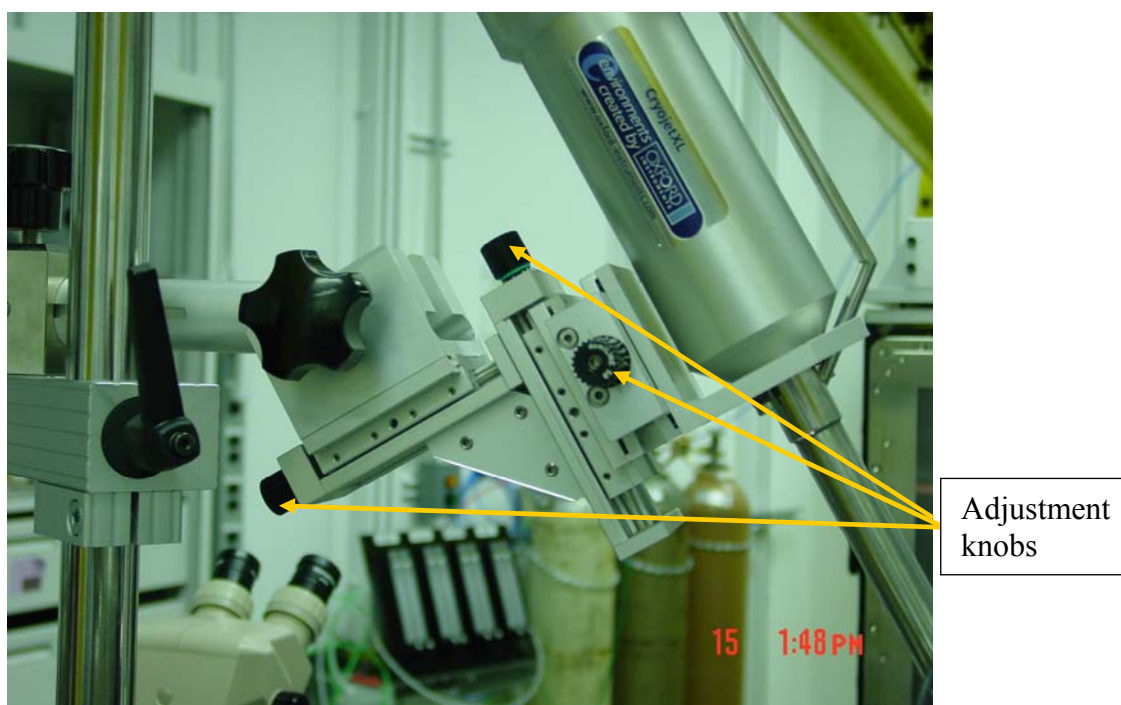

Figure 12. Alignment module of CryoJet. View from upstream.
3. Using three slides on the CryoJet mount (Fig. 12), center the pin.